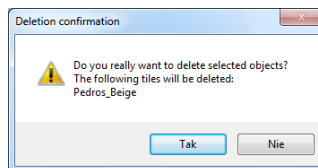

Fig. 213 – request for confirmation of removing a tile from the user database
- **Delete selected object** – deletes the selected tile, collection or collection type (also under); each time a request for confirmation, that the selected element is to be deleted will be displayed, because it is not possible to undo this action (Fig. 213);